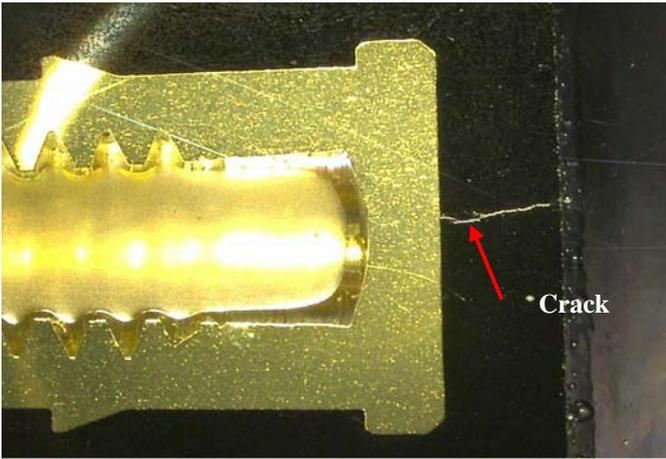

Figure 2: Cross-section of cracking near metallic insert.
The ordered arrangement of the molecular structure associated with crystallinity results in melting when a sufficient temperature is reached. Because of this, semi-crystalline polymers, such as polyethylene, polyacetal, and nylon, will undergo a distinct melting transition, and have a melting point (T_m). Amorphous polymers, including polystyrene, polycarbonate, and poly(phenyl sulfone), will not truly melt, but will soften as they are heated above their glass transition temperature (T_g). This is represented by the differential scanning calorimetry thermograms included in Figure 2.
Figure 2: Differential scanning calorimetry thermogram showing a melting transition of a semi-crystalline polymer and a glass transition for an amorphous polymer.
- Metallic inserts (*Figure 2*)
- Internal cracking (*Figure 2*)